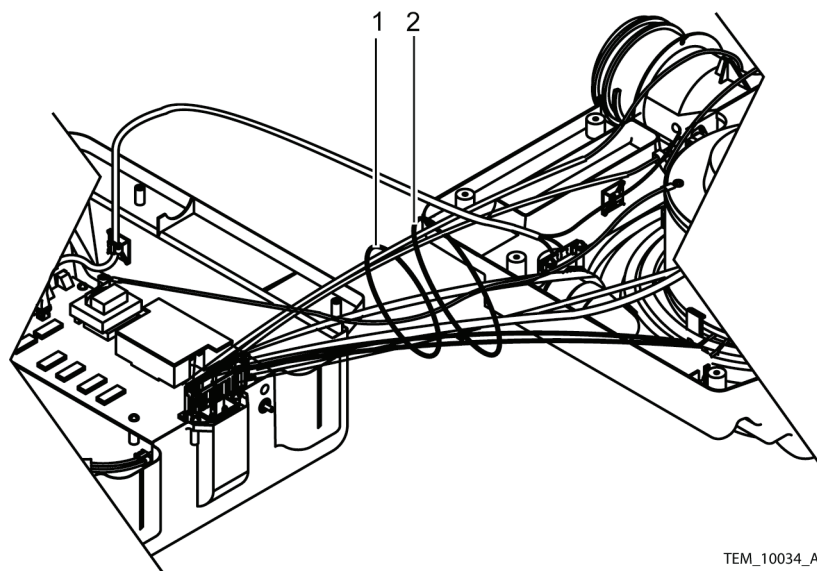

Figure 82. Cable Harness Bundle Ties
49. Install the cable harness bundle ties. See Figure 82, items 1 and 2.